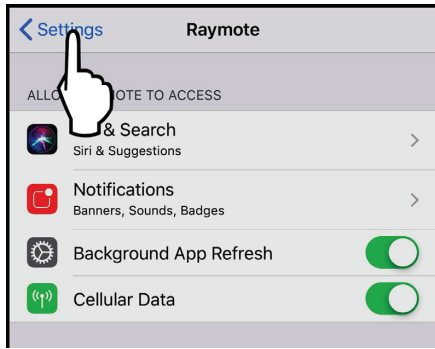

Figure 91. Select "Settings" Menu
- On the top left corner of the screen, press the "Settings" button to go the Settings menu. See **Figure 91**.